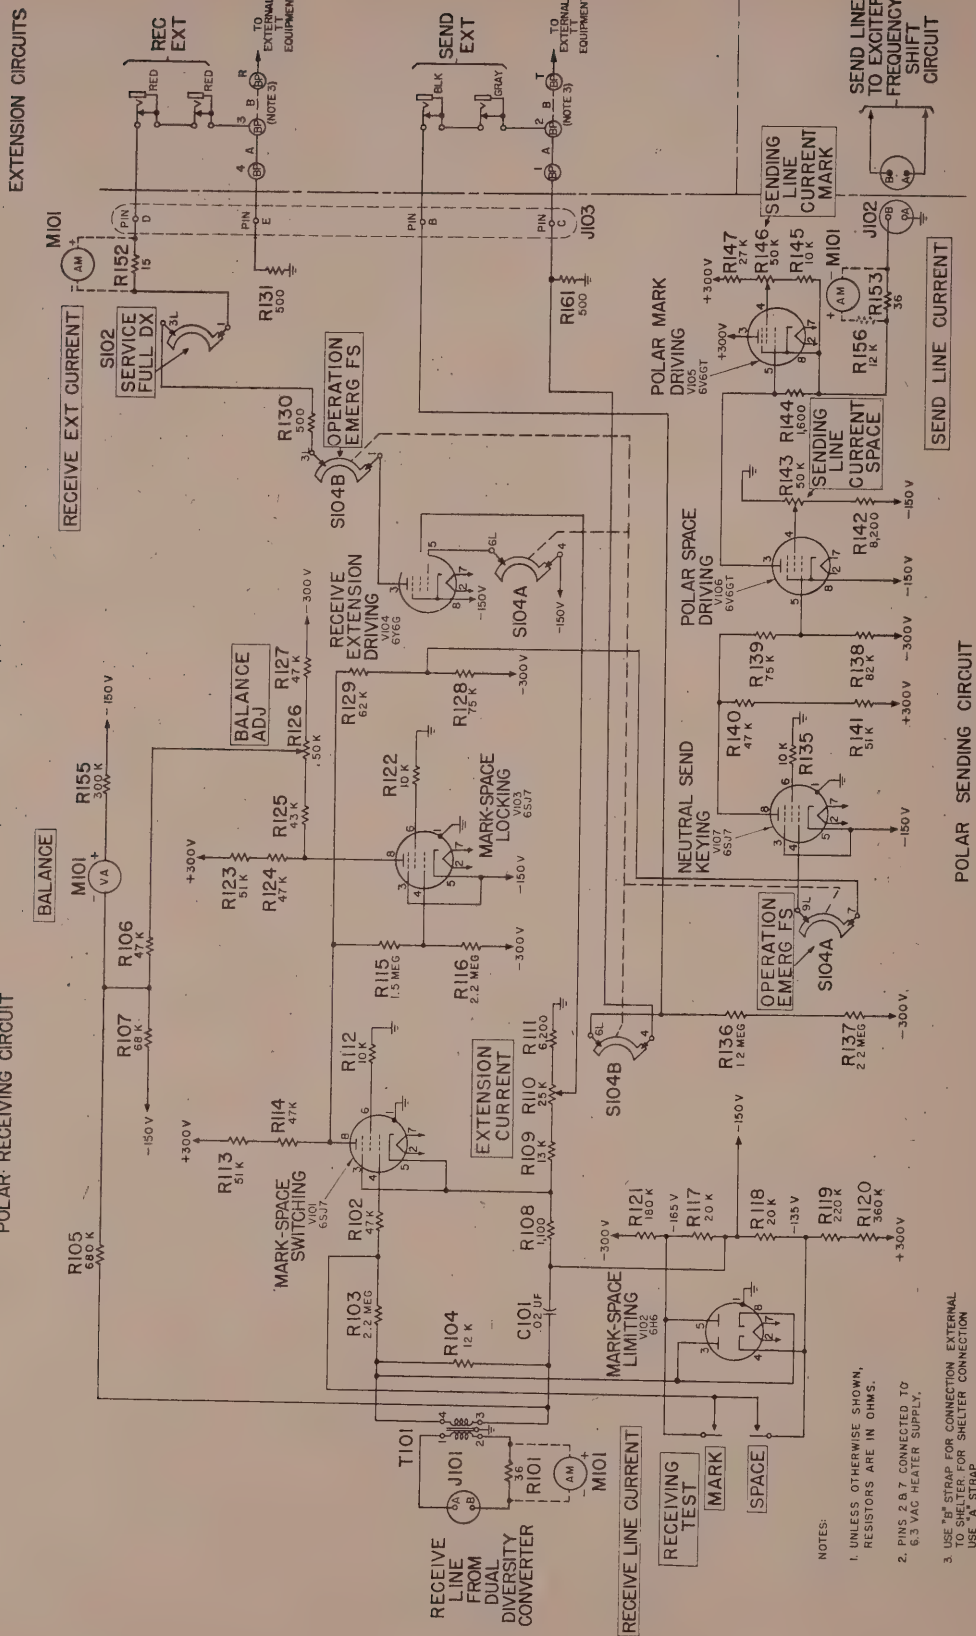

Figure 20. Control unit arranged for emergency FS operation.
34. Emergency FS Operation (fig. 20)
b. When the OPERATION switch on the control unit is turned to the EMERG FS position, the circuits are so arranged that the transmitter may be keyed from the receiving position. Figure 20 is a schematic diagram of the circuits arranged for emergency FS operation. The EMERG FS position of OPERATION switch S104 connects the control grid of receive extension driving tube V104 to the -150-volt supply which also is connected to the cathode. This connection holds V104 in a conducting state, preventing the receiving TT from running open (spacing continuously). In addition, this position of the OPERATION